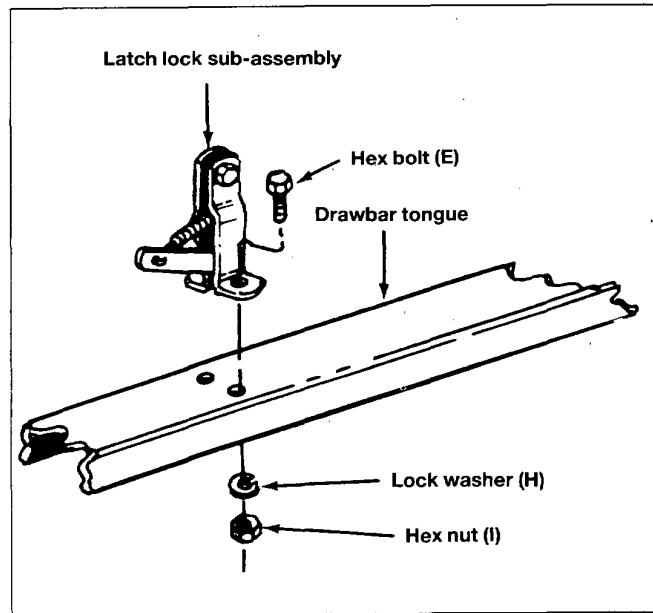

Fig. 13
18. Assemble latch lock sub-assembly to draw bar tongue using 1/4" x 5/8 (6x16 mm) long hex bolt (E), lock washers (H) and hex nuts (I). See figure 13.